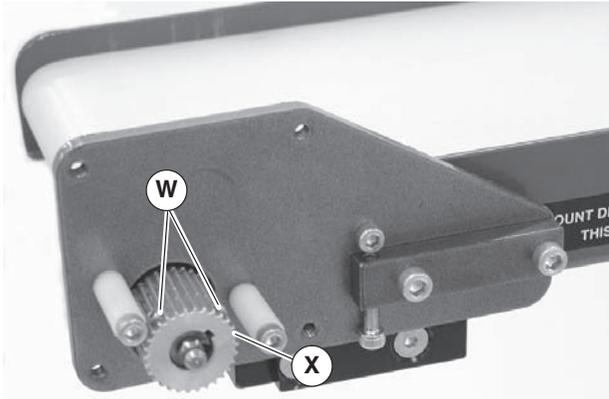

Figure 11
- Loosen (2) set screws (Figure 11, item W) on timing belt pulley (X).